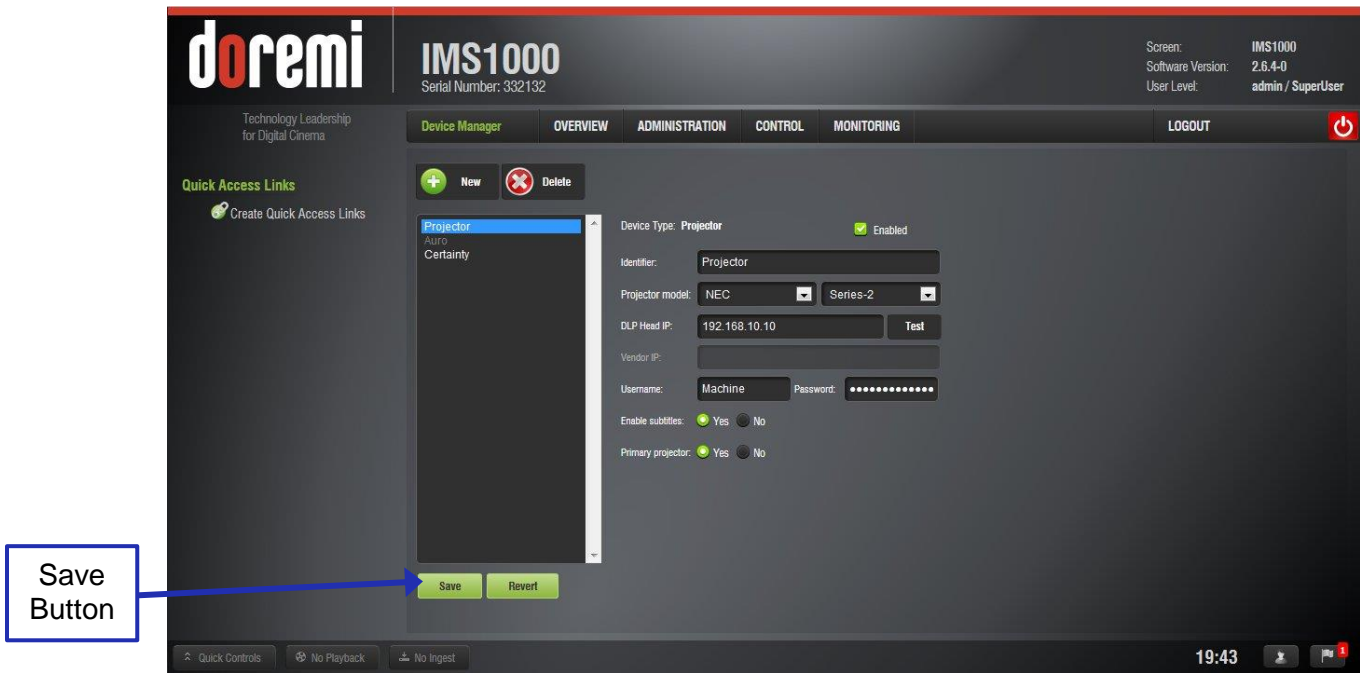

Figure 30: Projector Added
- Populate the projector parameters that appear (Figure 30).
- Click the Save button (Figure 30).